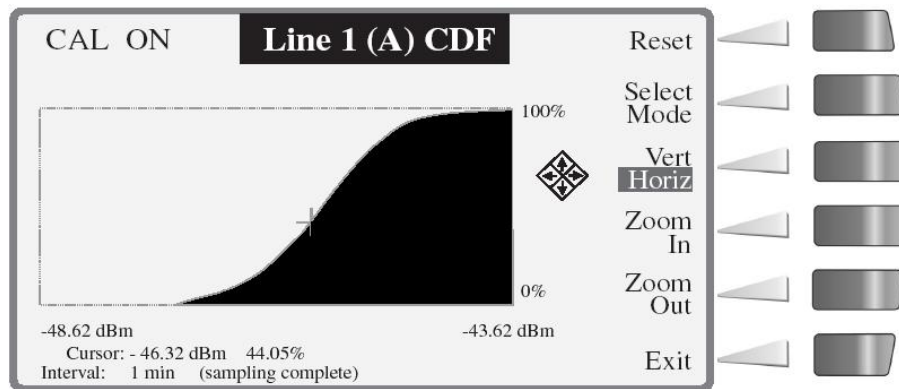

Figure 2-9: CDF Curve Illustration
- b. The CDF (Cumulative Distribution Function) shows the percentage of time a signal is below a selected power level (See Figure 2-9). The x-axis displays the power level and the y-axis displays the percentage of time the power is at or below the power level specified by the x-axis.